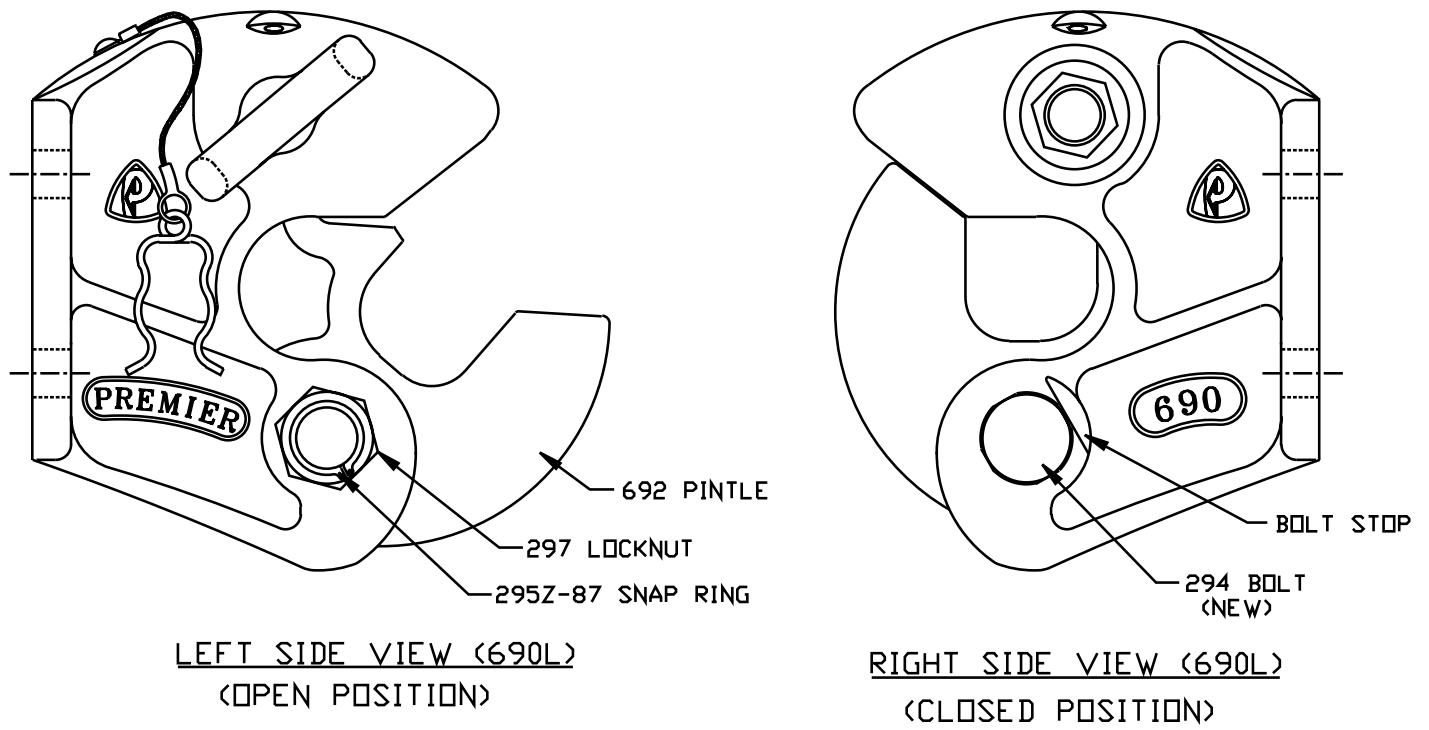

FIGURE 1
- 1) Place the 690 Coupling in the OPEN position as shown in the Left Side View in Figure 1.
- 13) One of the four flats on the head of the new 294 Bolt must be adjacent to the bolt head stop on the 690 Coupling Body as shown in the Right Side View in Figure 1. (Note: It is fine if the bolt stop does not prevent the new 294 Bolt from rotating.)